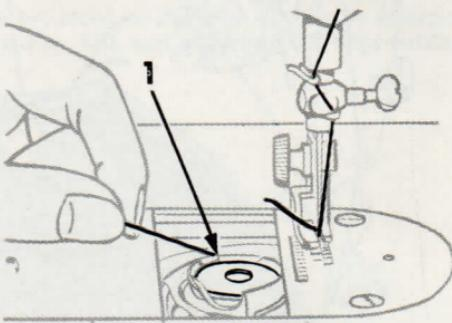

FIG. 28.
- Place bobbin in case and draw thread into slot 1, Fig. 28.